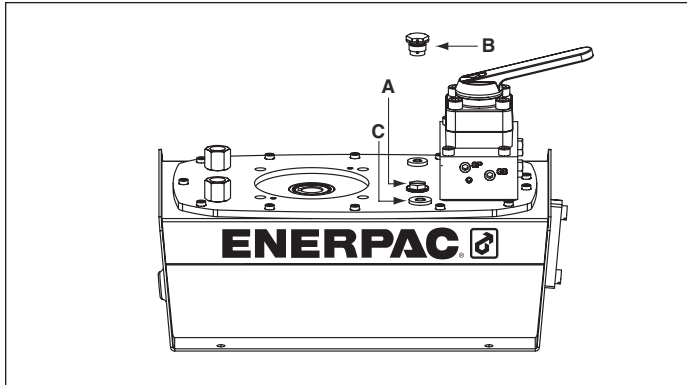
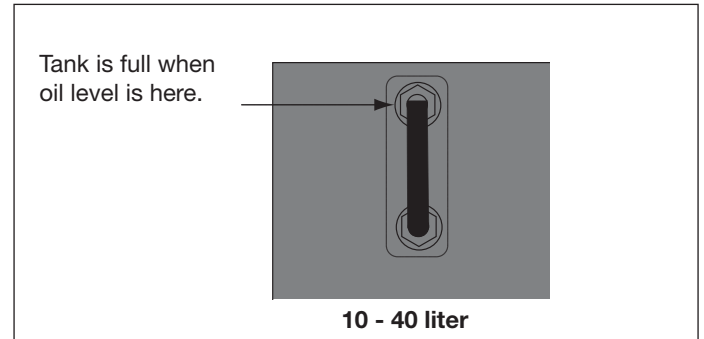

Figure 2, ZG Breather Installation
Figure 4
4.1 Reservoir Breather Cap (See Figure 2)
Check the oil level of the pump prior to start-up, if necessary add oil by removing the SAE #10 plug from the cover plate (see Fig. 2). The reservoir is full when the oil level reaches the top of the sight glass. (Fig. 4).